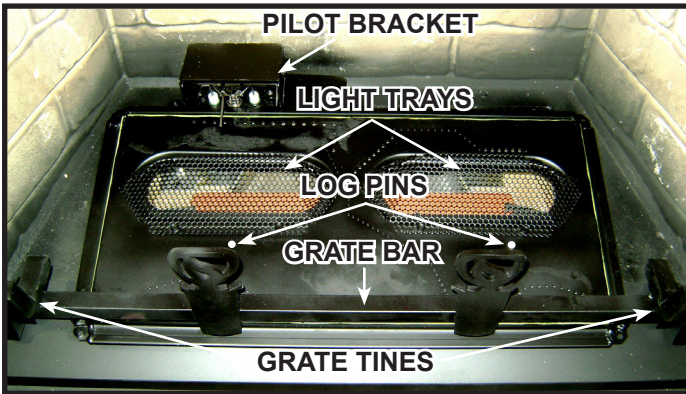
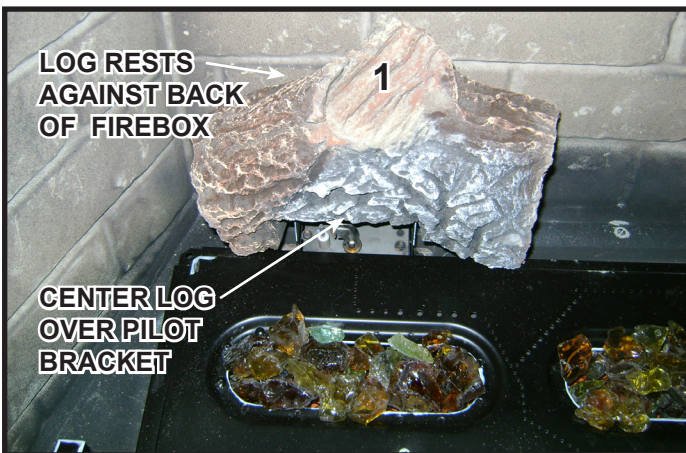
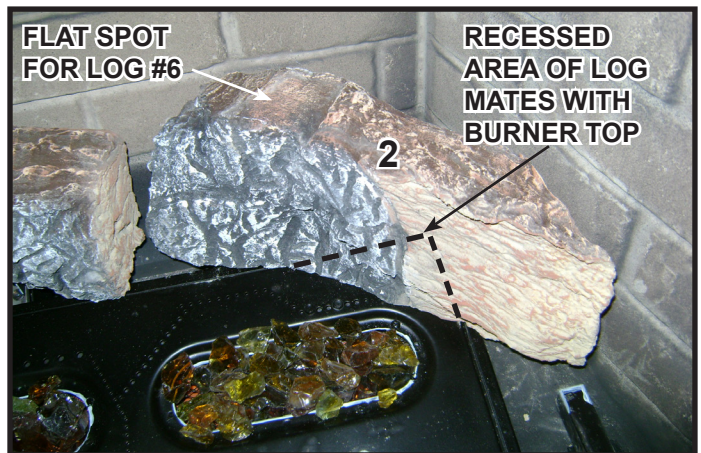
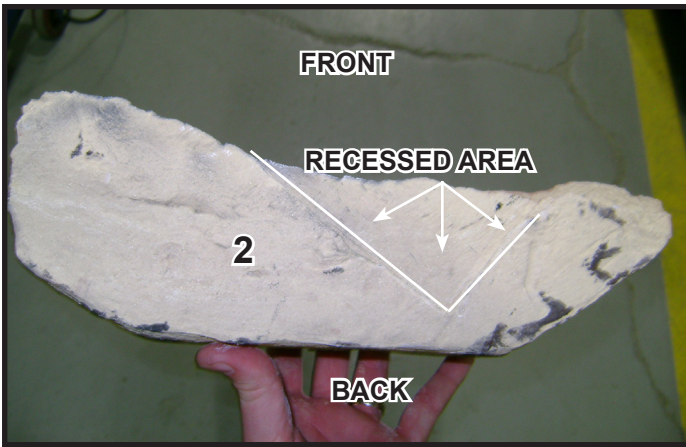

Figure 2. Reference Points for Log Placement
Figure 4. Place Log #1
Figure 5. Place Log #2
Figure 6. Log #2
**Log #1 (SRV2221-703):** Position Log #1 as shown in Figure 4. See Figure 2 for additional points of reference. Center the log over the pilot bracket. Pull the log forward until contact is made with burner.
**Log #2 (SRV2221-701):** Position Log #2 as shown in Figure 5. See Figure 2 and Figure 6 for additional points of reference. The recessed area on the bottom of the log and the back right corner of the burner top mate.